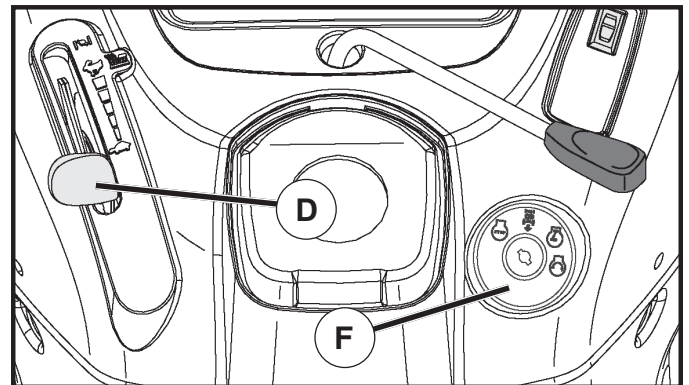

Fig. 9
- Move throttle control (D) between half and full speed (fast) position.
- Turn ignition key (F) to "STOP" position and remove key. Always remove key when leaving tractor to prevent unauthorized use.
### TO USE THROTTLE CONTROL (D) (See Fig. 9)